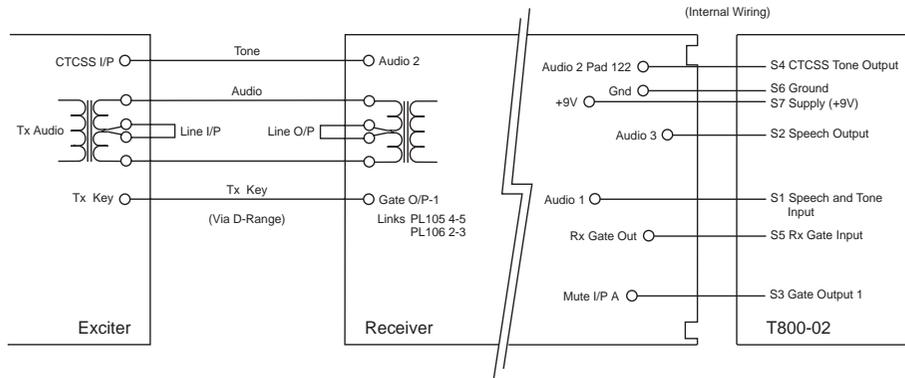
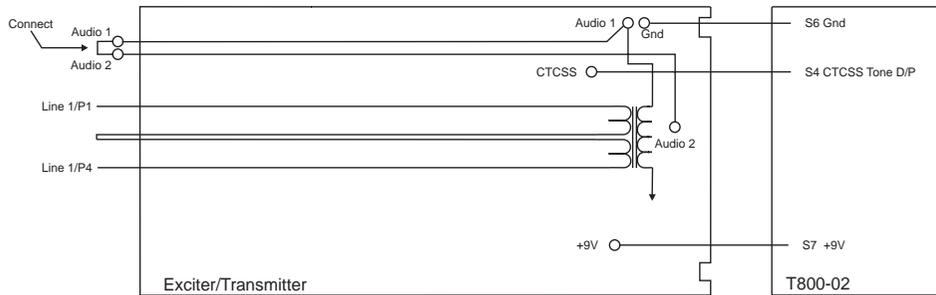
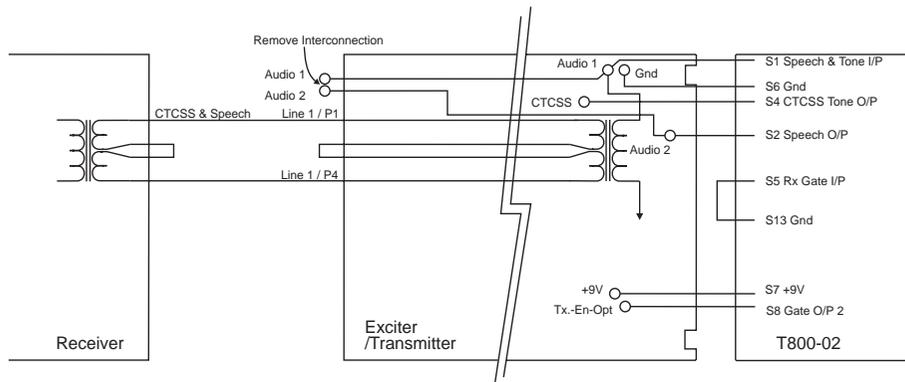

Figure 2 Receiver CTCSS Wiring Details
Figure 3 Transmitter CTCSS Wiring Details
Figure 4 Talk Through Repeater Wiring
2. Connect the T800-02 to the audio and power supply points in the audio processor as shown in Figure 2 (receivers) or Figure 3 and Figure 4 (transmitters).
Refer to Figure 2.